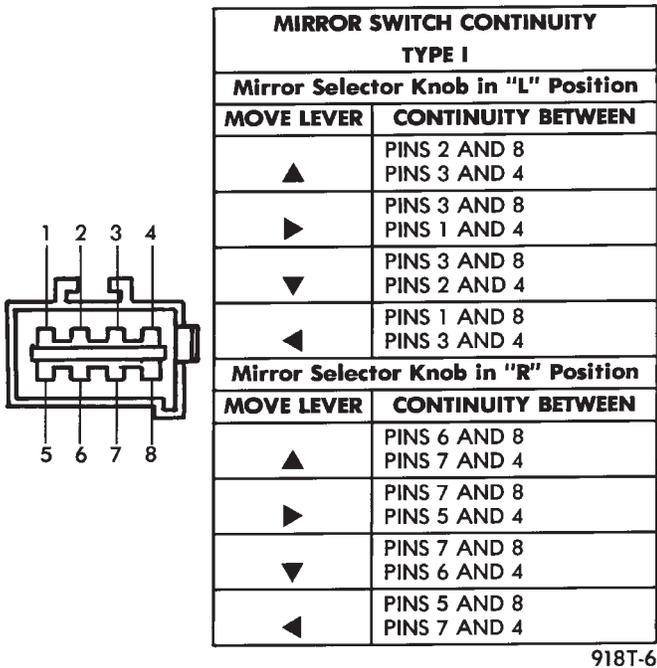

Fig. 6 Type I Mirror Switch Test
- (1) Remove power mirror switch from mounting position.
- (2) Disconnect wiring harness at switch connector.
- (3) Using an ohmmeter, test for continuity between the terminals of the switch as shown in the Mirror Switch Continuity for appropriate switch style (Fig. 6 through 8).